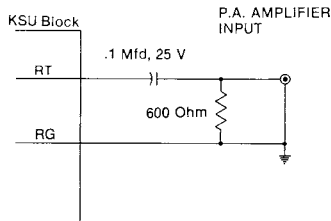

Fig. 4 — Wiring Connections For Voice Paging With A System Using Call Announcers
3.36 Connect the RT lead assigned to voice paging to the amplifier input using interface circuit shown in Figure 4.